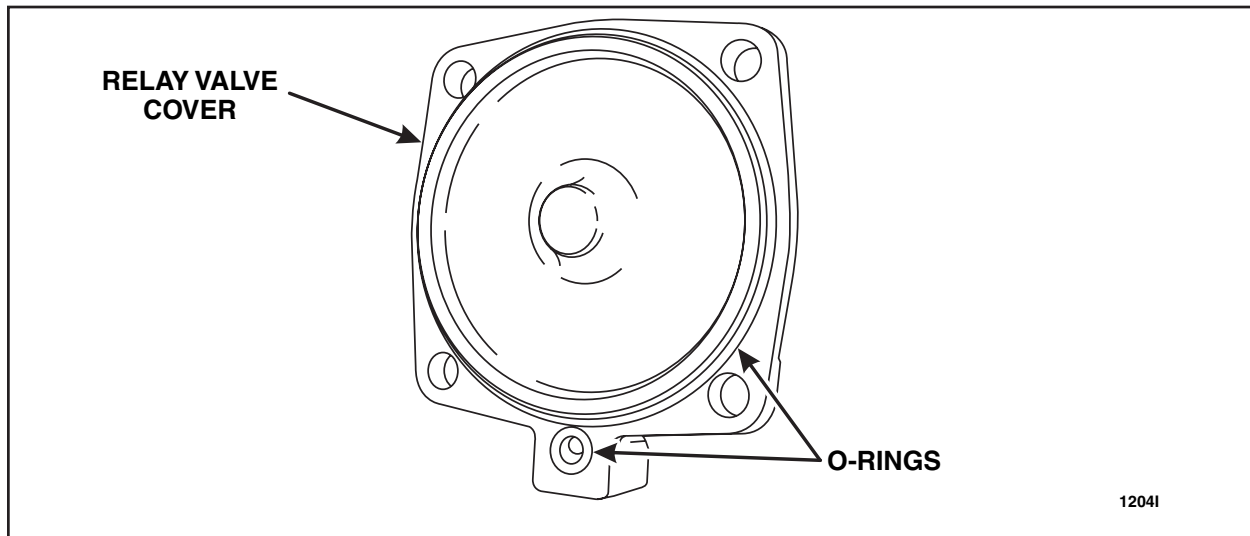

FIGURE 8
16. Install the *new* large and small o-rings onto the *new* relay valve cover. See Figure 8.